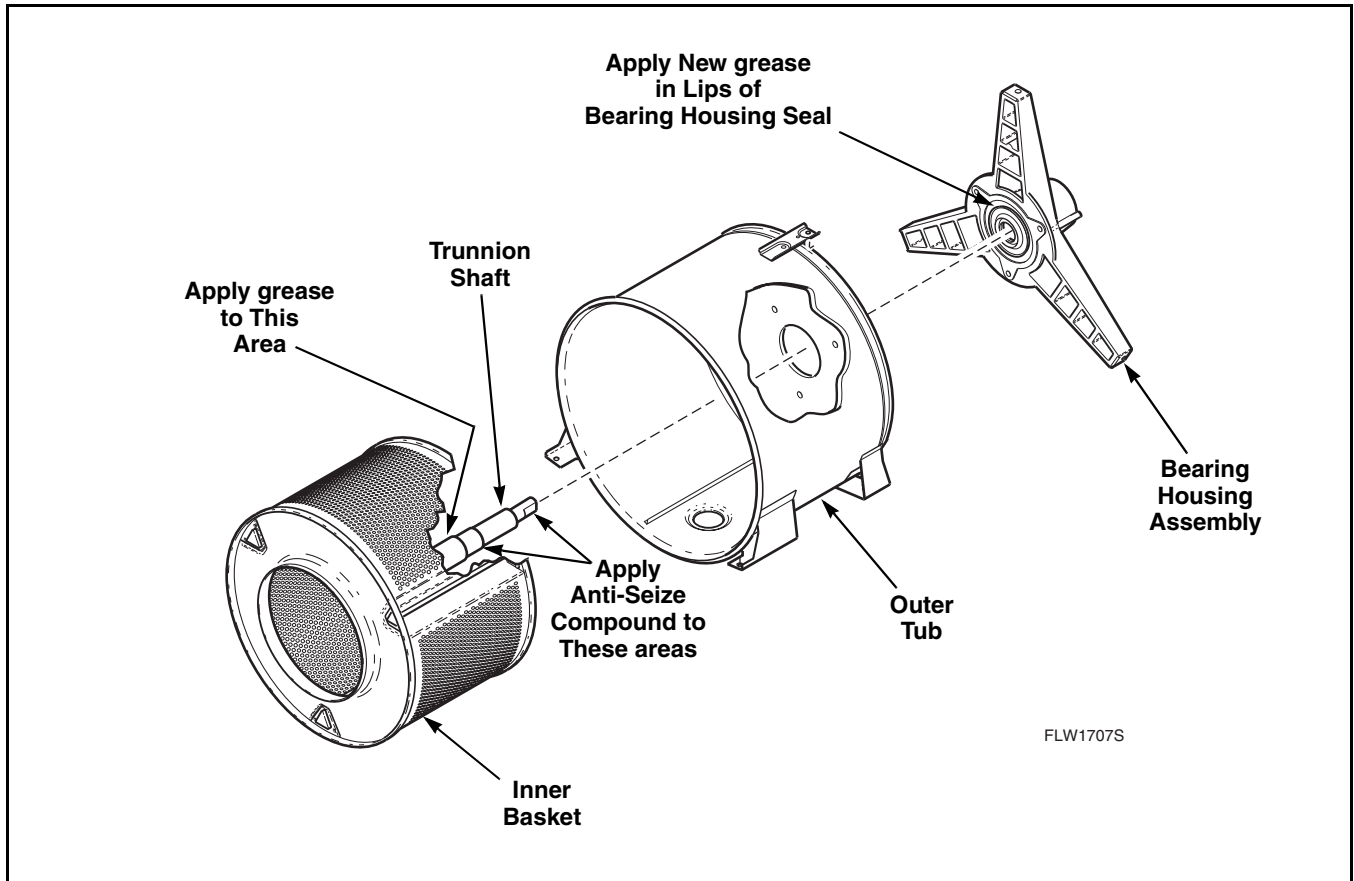

Figure 25
- a. Apply No. 27604P Anti-Seize Compound to the area of the trunnion shaft that will be contacting the front and rear bearings. Refer to *Figure 25*.
- b. Apply a film of grease to area of shaft that will be contacting the bearing housing seal. Refer to *Figure 25*. Make sure seal lips also are packed with grease. Refer to *Figure 25*.